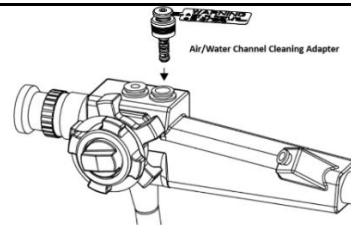

Figure 3
22. Insert the air/water channel cleaning adapter into the air/water cylinder on the control body of the endoscope (See Figure 3).